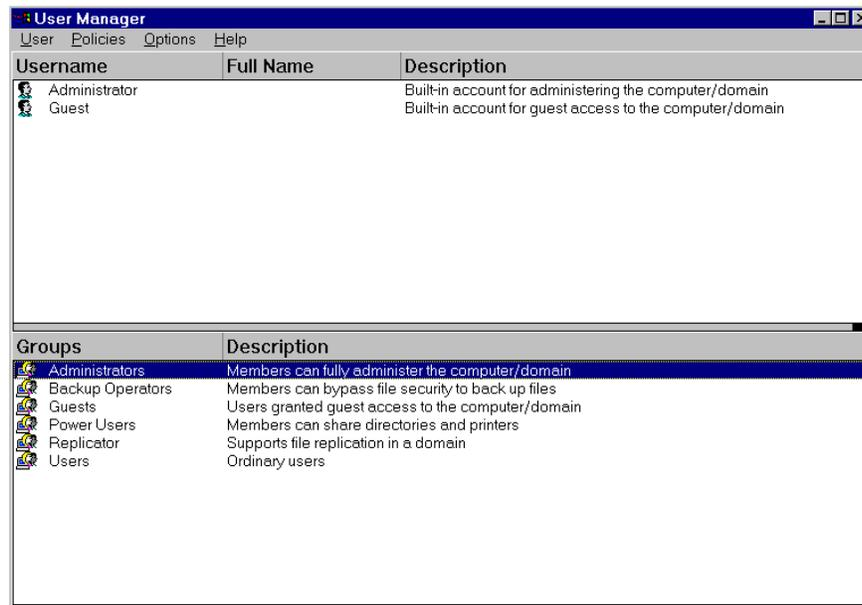

Figure 8. User Manager Dialog Box for Windows NT
2. Select **Administrative Tools**, and click **User Manager**. The **User Manager** dialog box opens (Figure 8).